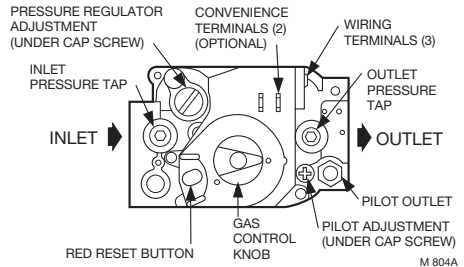

Fig. 1. Top view of gas control.
2. Remove the regulator cap screw and pressure regulator adjusting screw. See Fig. 1.
6. Connect pipe to gas control inlet and outlet. Use wrench on the square ends of the gas control. If an adapter is used, place wrench on adapter rather than gas control. Refer to Fig. 1 and Fig. 5.
3. Unscrew the compression fitting from the pilot outlet (Fig. 1). Slip the compression fitting over the tubing and slide out of the way.
2. Connect control circuit to gas control terminals. See Fig. 1 and Fig. 6.
1. Remove the pilot adjustment cover screw. Refer to Fig. 1.